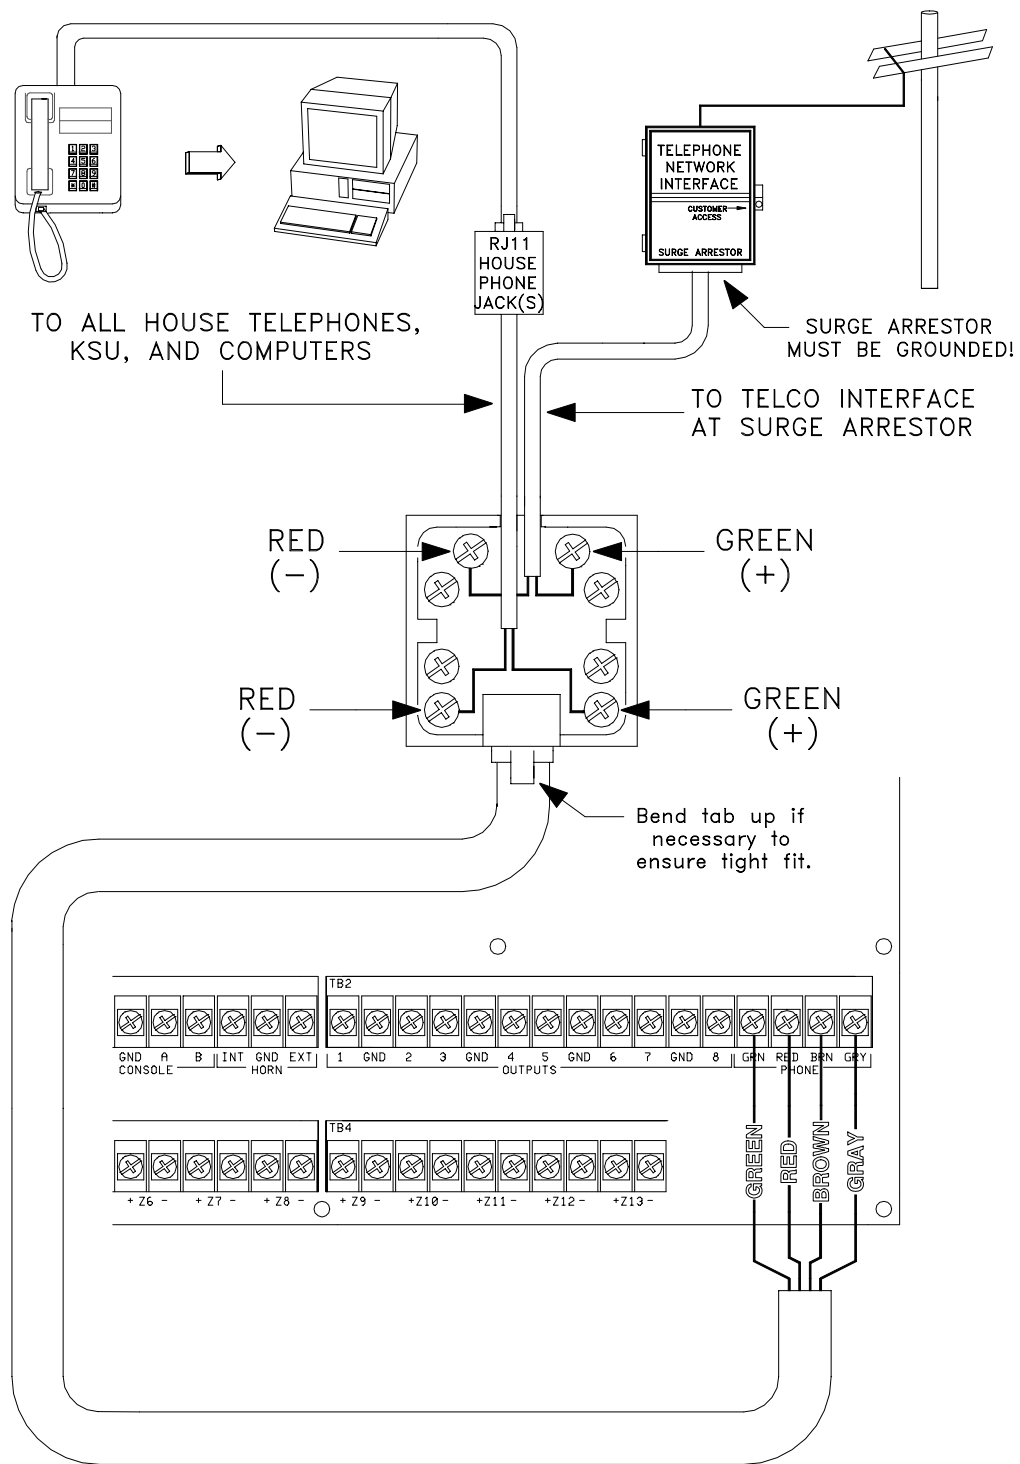

Figure 4 - RJ31X Jack Connections
10. Refer to **FIGURE 4 (RJ31X JACK CONNECTIONS)** for this configuration.